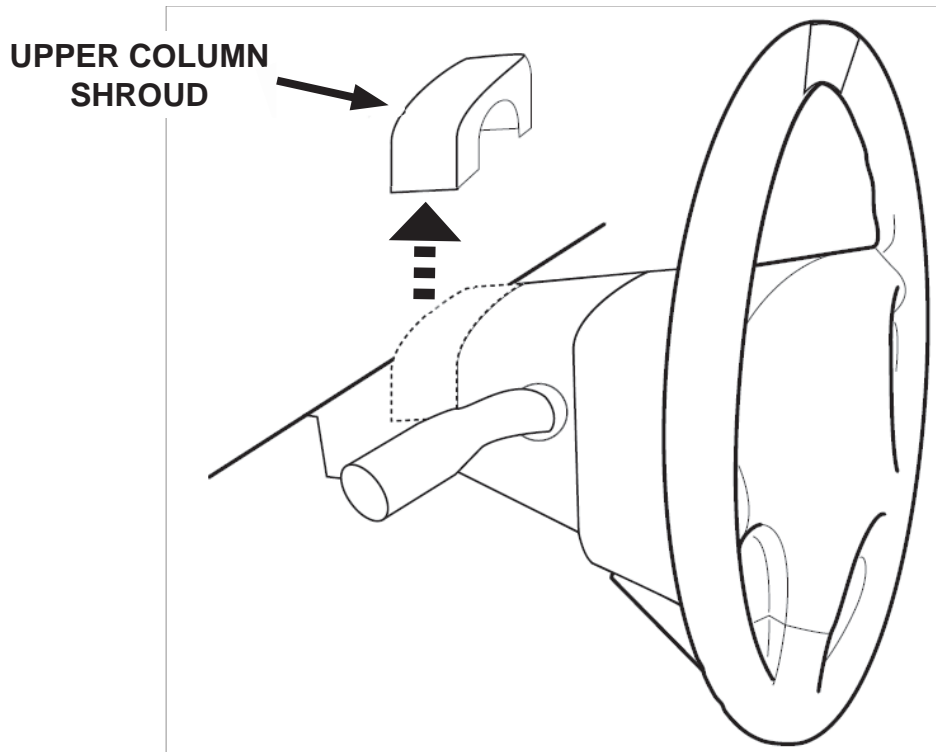

FIGURE 4
8. Pull up and remove the upper column shroud. See Figure 4.